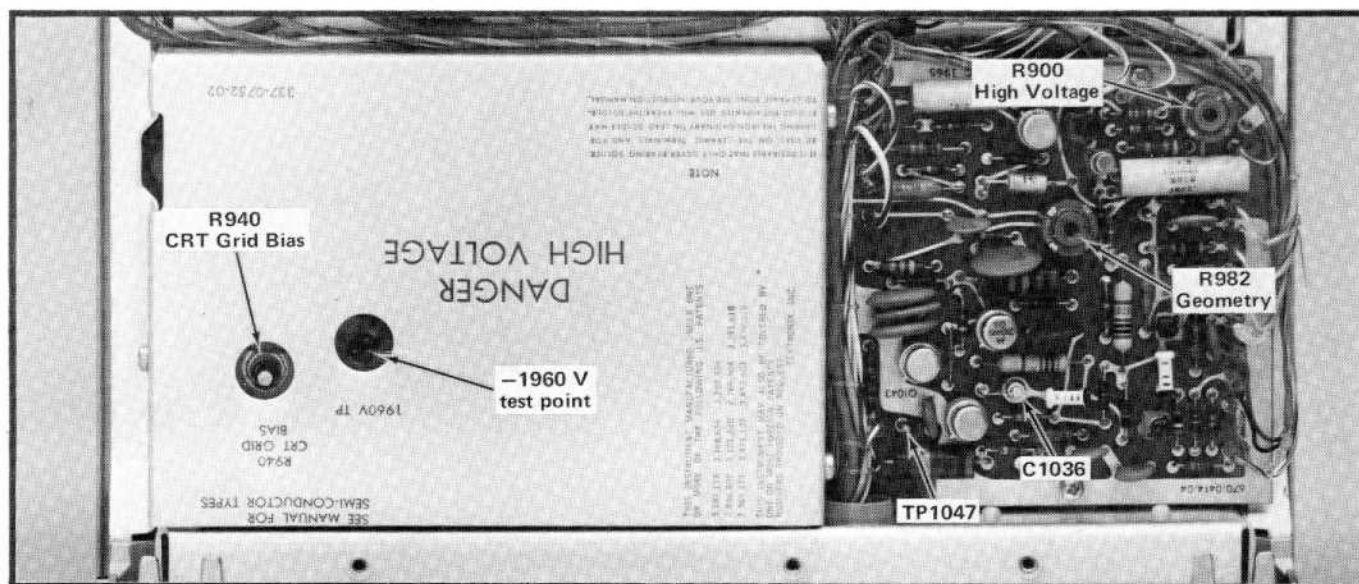

Fig. 5-5. Location of high-voltage and Z-axis test points and adjustments (bottom of instrument).
a. Connect the DC voltmeter (VOM)⁴ between the -1960 V test point (see Fig. 5-5) and chassis ground.
c. ADJUST—High Voltage adjustment R900 (see Fig. 5-5) for -1960 volts.
a. Connect the DC voltmeter (VOM) between TP1047 (see Fig. 5-5) and chassis ground.
d. ADJUST—CRT Grid Bias adjustment R940 (see Fig. 5-5) so the dot on the CRT is just extinguished (it may be necessary to turn the horizontal POSITION control clockwise to bring the dot onto the viewing area).
f. ADJUST—Geometry adjustment R982 (see Fig. 5-5) for minimum bowing of the trace at the left and right edges of the graticule.
c. Connect the probe tip to TP1047 (see Fig. 5-5); connect the probe ground to chassis ground with a short grounding strap.
g. ADJUST—C1036 (see Fig. 5-5) for optimum square corner on the unblanking gate.